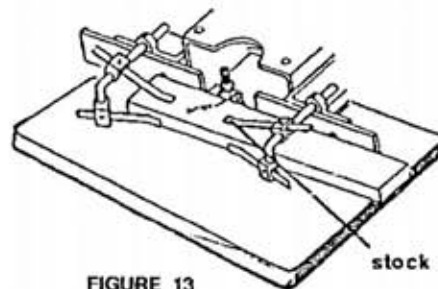

FIGURE 13
1. Use the hold-ins and hold-downs as shown in figure 13 to firmly hold the work piece down and against the fence. If work piece is too wide for the hold-ins to be used, clamp a scrap board to the table to substitute for the hold-ins.